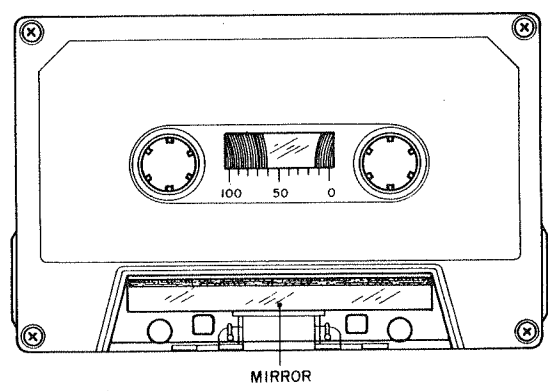

Fig. 9
- 1) When using an ordinary cassette, the tape guides and heads, etc. are not visible. As shown in Fig. 9 use a cassette tape from which part of the cassette case has been cut out and a mirror installed for easy visibility of the head area when making tape guide height adjustment.
4. When a mirror installed cassette test tape as shown in Fig. 9 is required, it can be ordered from AKAI Electric Co.